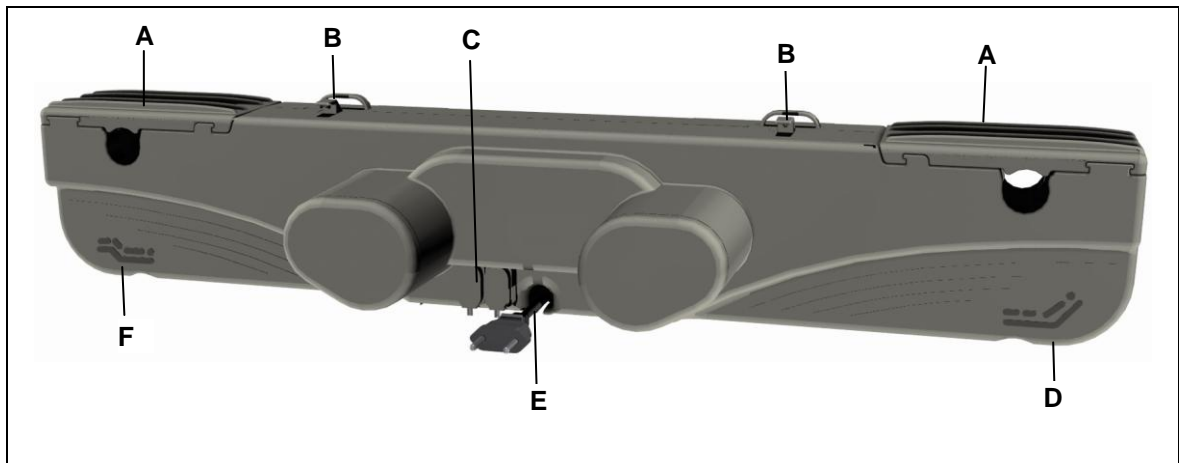

Figure 3 Main components of the OKIMAT 6 double drive (variant with attached power cord)
- 2 Pull strongly on the shutters to the side (A). The slots (B) for the brackets (D) are uncovered.
- 3 Align the OKIMAT 6 next to your product. The slots for the head and foot sides must be properly aligned with the correct brackets on your product (refer to the symbols on the OKIMAT 6 as described in Figure 3).
- 4 Push the drive in so that the brackets (D) fit into the slots (B).
- 5 Close the shutters (A) on the drive by snapping them back in. The OKIMAT 6 is now securely attached to the end product.